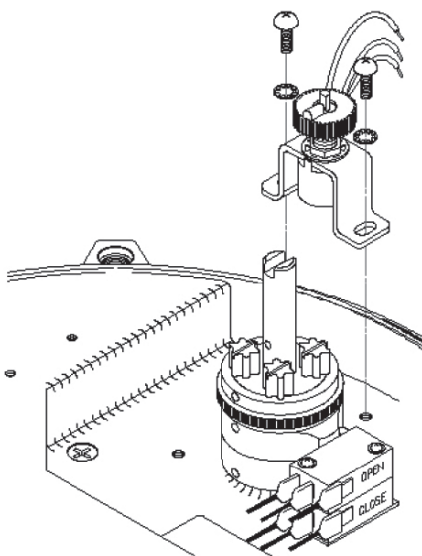

Figure 4: Feedback Pot Mounting and Positioning.
5. Use the black feedback pot knob to rotate the black feedback pot cam until the raised green rib on the pot gear (see Figure 4 below) is directly in-line with the slot on the top of the indicator shaft.